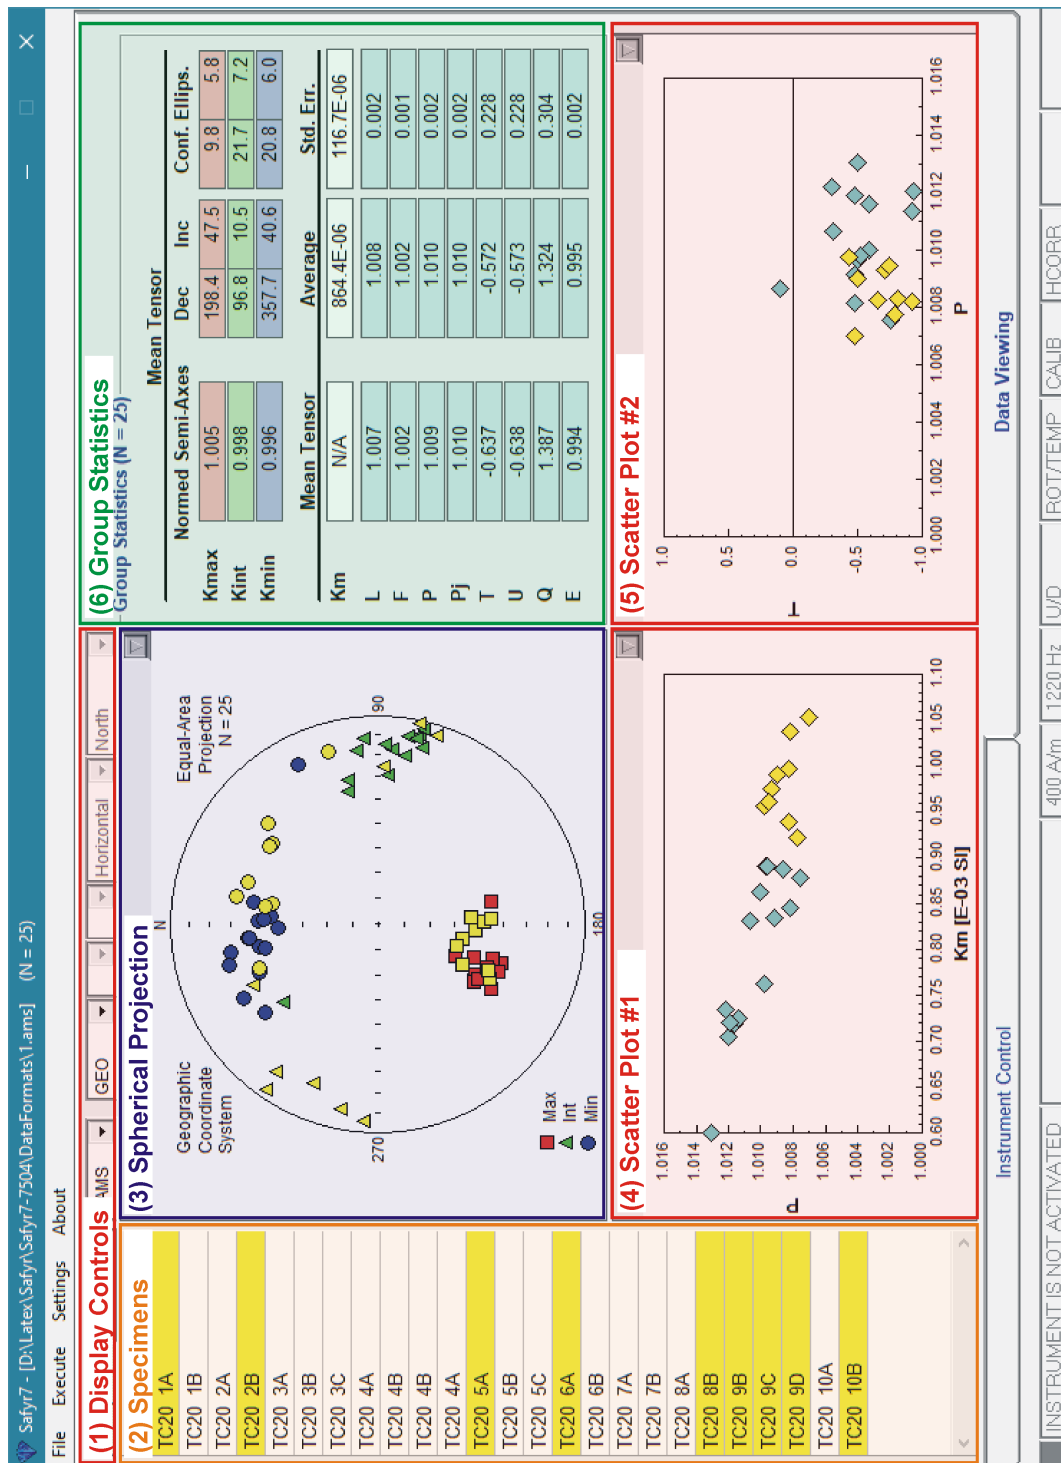

Figure 29: Data Viewing tab-panel displaying graphical outputs of magnetic anisotropy data of multiple specimens; color-coded frames highlight its main parts.
The appearance of **Data Viewing** tab-panel changes according to the selected measuring mode (i.e., anisotropy of magnetic susceptibility, bulk susceptibility of individual specimens, or field dependence, see Figures 29, 31 and 33, respectively²⁸).
In the Anisotropy of Magnetic Susceptibility mode, the **Data Viewing** tab-panel offers instant visualization and basic processing of magnetic anisotropy data. The panel is automatically refreshed each time a new record is appended to the current data file so that the measurement results can be monitored in "real time". The panel contains the following parts (Figure 29):
- Graphics** **Table** **option buttons** – Switch between graphical and tabular view of magnetic anisotropy data (see Figures 29 and 30, respectively).